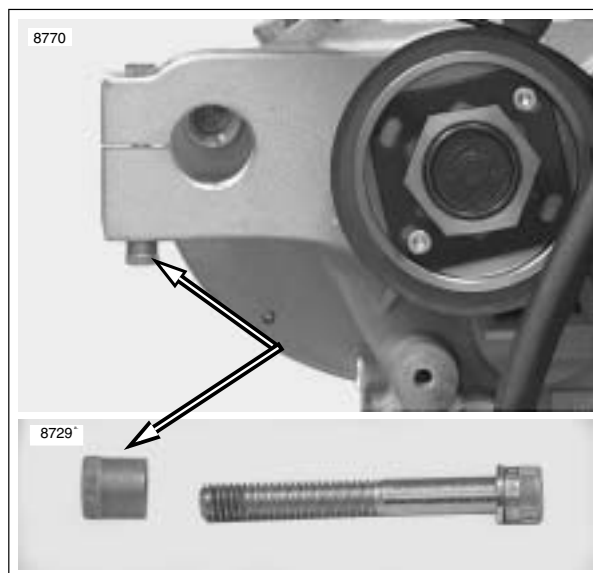

Figure 3-35. Threaded Insert
- c. See Figure 3-35. Apply LOCTITE 242 (blue) and install swingarm pivot shaft pinch bolt threaded insert.